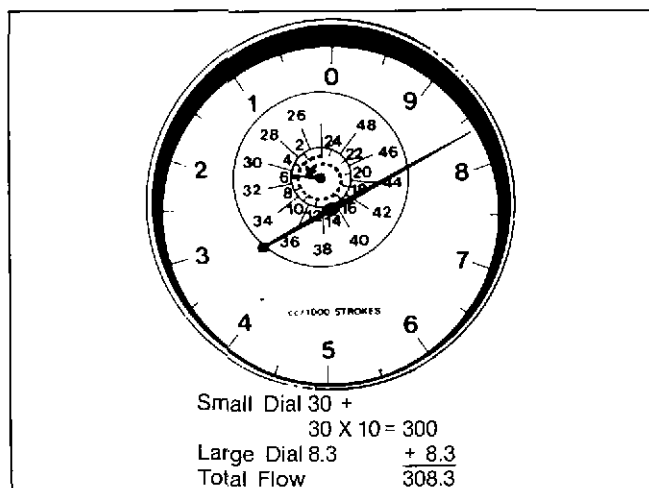

Fig. 2-57. Reading 308.3 cc injector flow
- b. If the small hand has made more than one revolution, use the outer ring of figures (26 to 48) and multiply by 10. Add the reading of the large hand. Figs. 2-57 and 2-58.